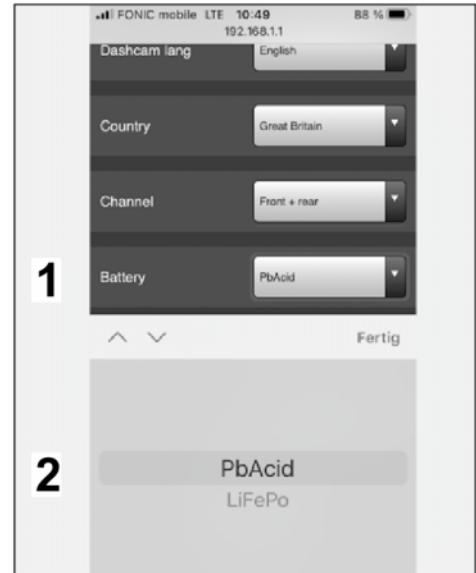

Figure 27
5.3.4 Select battery type (⇒ *Figure 27*)